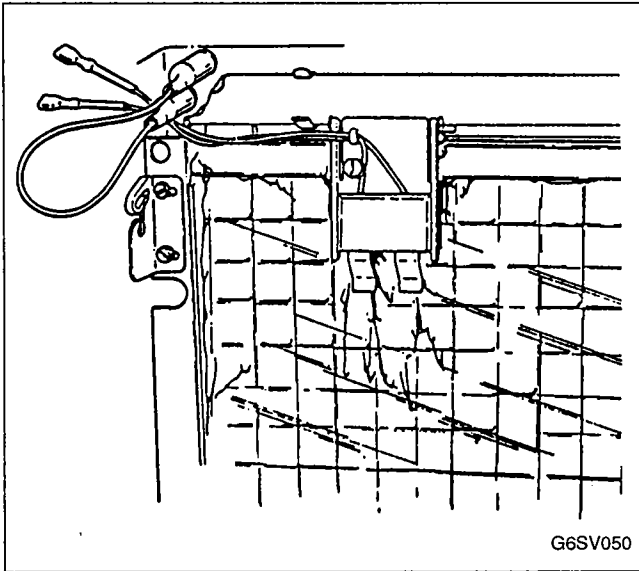

FIGURE 52. JUMPER WIRE CONNECTED TO BULKHEAD TERMINALS
Step 3: Disconnect ice thickness control probe wires from bulkhead (upper left corner). Connect the jumper wire to the bulkhead terminals, Figure 52.